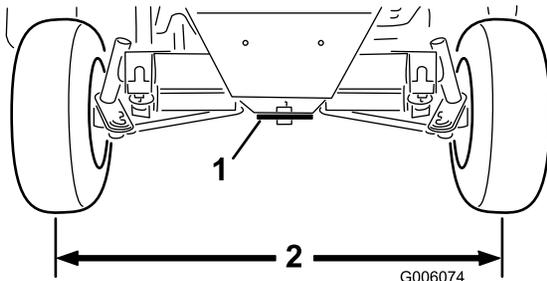

Figure 57
- Loosen the jam nuts on both tie rods. Adjust both tie rods until center-to-center distance at front and back of rear wheels is the same (Figure 57).